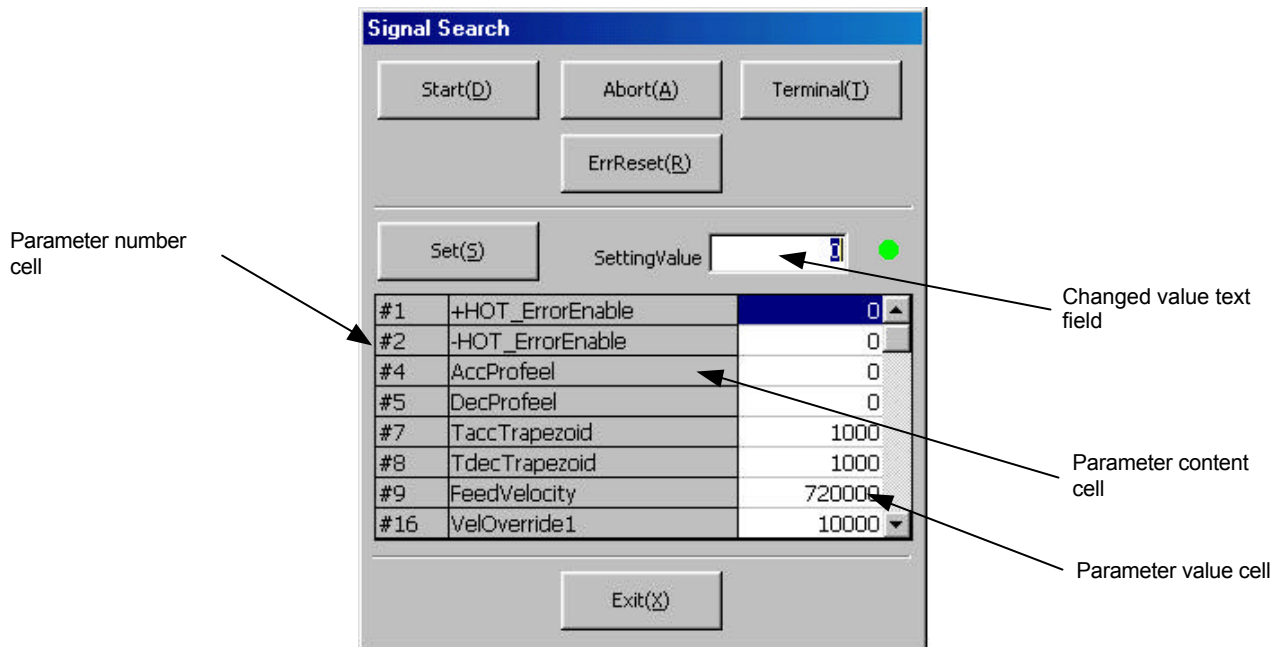

Figure 7.22 “Signal Search” dialog box
Click “SignalSearch (S)” in the “DriveMenu” dialog box to display the “Signal Search” dialog box (see Figure 7.22). If the connection with the driver is established, the current values of the related parameters are read and can be edited.